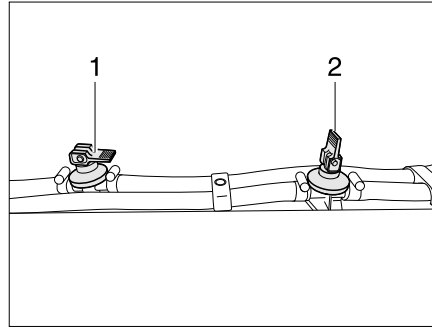

Fig. 357 Drain cock
- Open all drain cocks. To do so, set the rocking lever (in Fig. 357,2) in a vertical position.